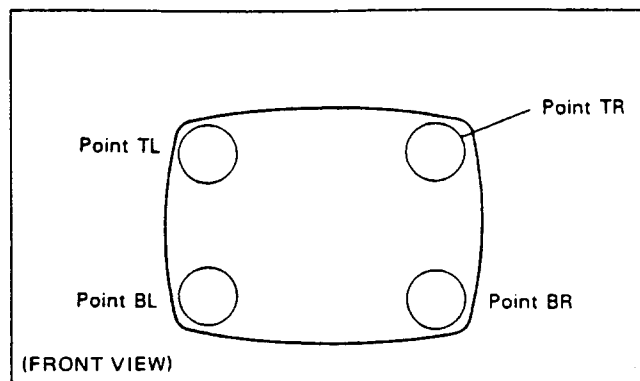

Fig. 7
- For example, when correcting convergence of the point TR on the screen in Fig. 7, insert the ribbon in the upper-right position of the CRT facing the front. When looking at the convergence aberration of the point TR on the screen (longitudinal and vertical line), set the position of the ribbon and correct the convergence in accordance with the following steps.